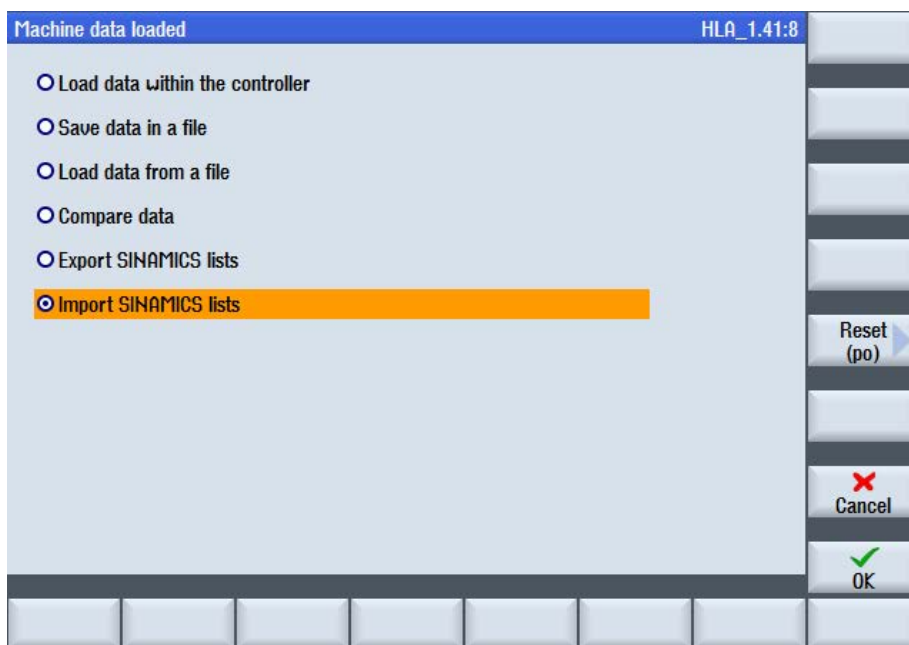

Figure 5-21 Loading machine data
3. You can access the "Machine data loaded" dialog using the "Manage data" softkey (see Figure 5-21 Loading machine data (Page 81)).